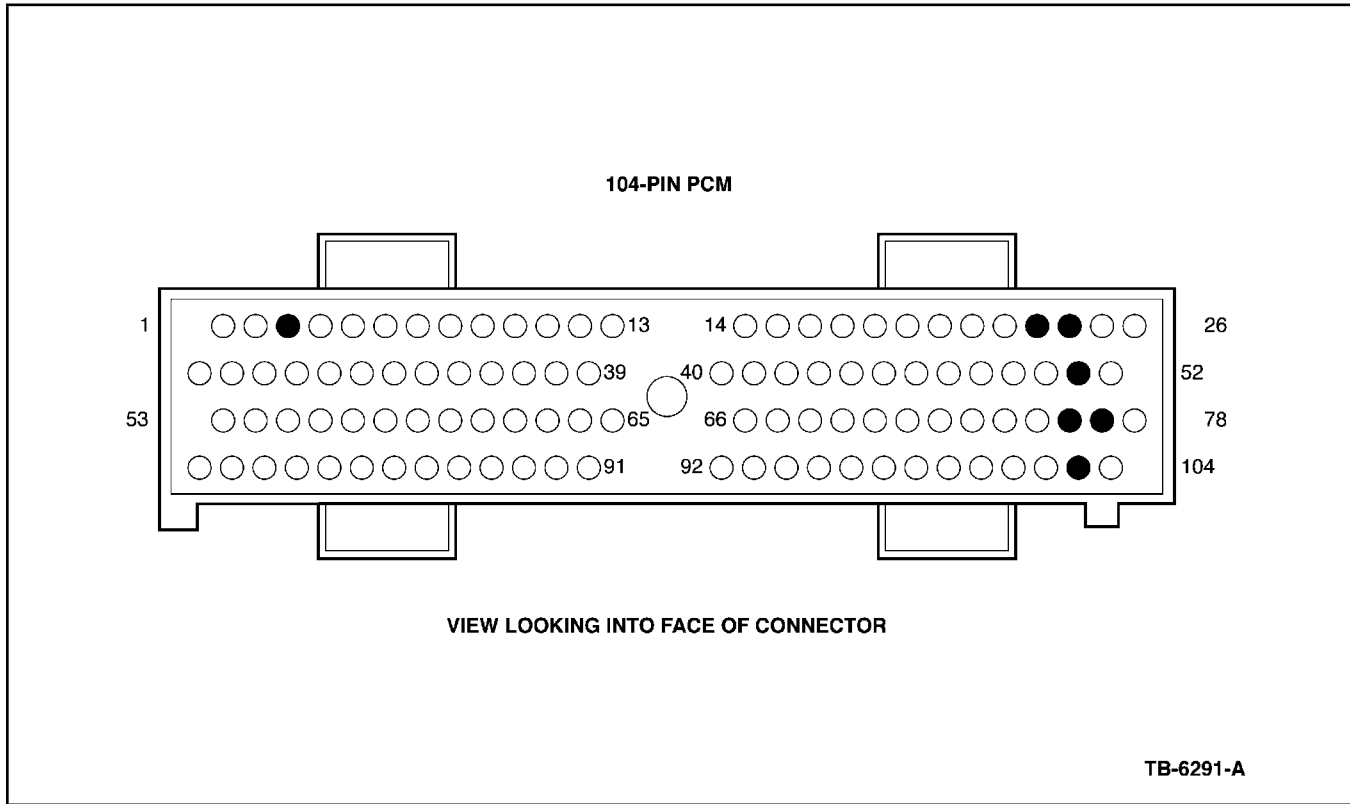

Figure 1 - Article 02-11-3
8. Using the sharpened paper clip tool (or small screwdriver), open the locking tabs and remove the pins as shown (Figure 1).